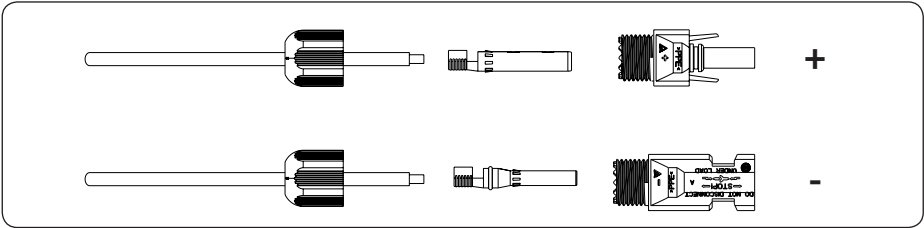

Figure 4-9
3) Disassemble the connector in the accessory bag, as shown in Figure 4-9: